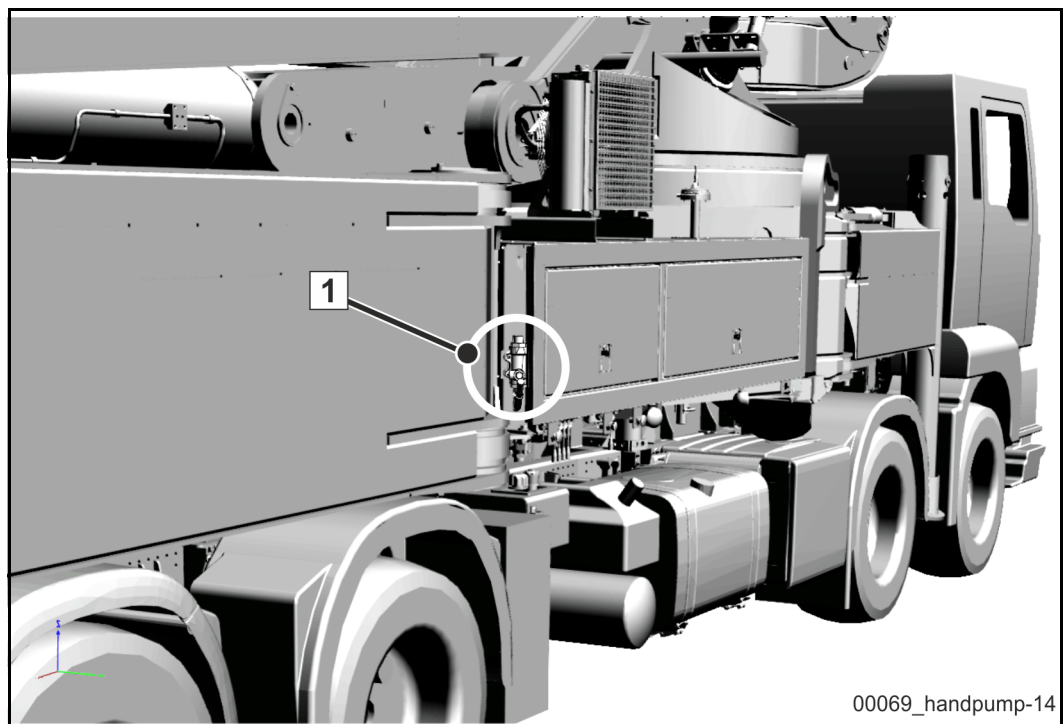

Fig. 235 Emergency hand pump (1) S 65 SXF
For machines with model S65SXF, the emergency hand pump (1) is located outside of the control cabinet near the rear outrigger (**Fig. 235**).